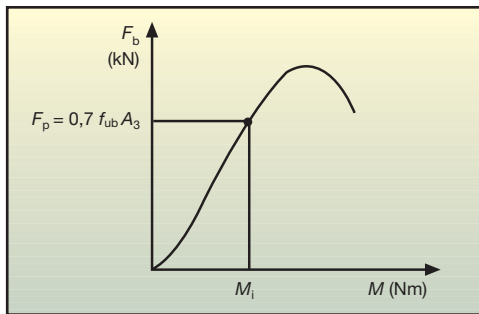

Figure 3: Torque/bolt force curve.
- K-class (friction between nut thread and bolt threads). Default case *kO* applies (See below 14399-2 figure 3)
- The bolt force drops to F_p (see figure 3).
- The rotation/ bolt force relationship (figure 3)
- The torque / bolt force relationship (if required): figure 3 is used to determine k factors.